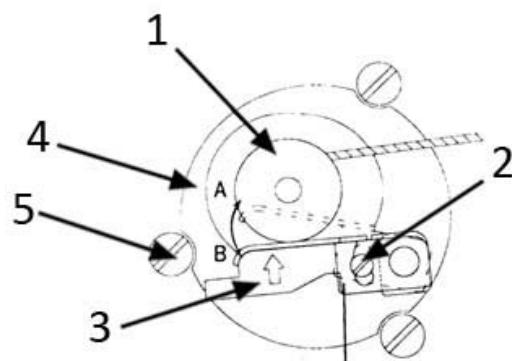
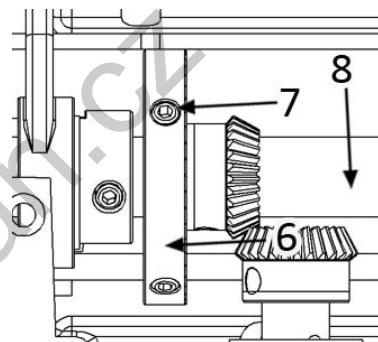

Fig. 43
Fig. 44
Setting amount of wound thread (fig. 43)
- A. Remove 3 screws (5) - fig. 43, and take out the bobbin winder (4), reaching access to the driving wheel (6), fig. 44.
- B. Loosen screws (7) and set the wheel (6) by moving it on the main shaft (8) until it is in the required contact with the driving ring of the winder (4).